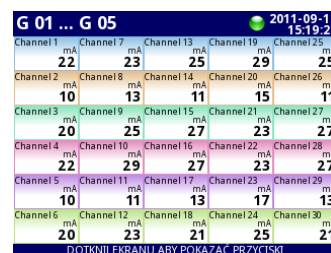

Fig. 4: Simultaneous presentation, groups 1 to 5
- simultaneous presentation many groups - Fig. 4
For the sake of clarity of results, the measurement channels are assigned to groups. The “GROUP” buttons are used to select the group which will be displayed. Figure 4 presents a mimic board view with 30 channels from groups from 1 to 5. Using the “GROUP” buttons will change the range of displayed channels; this also applies to all other data display modes.